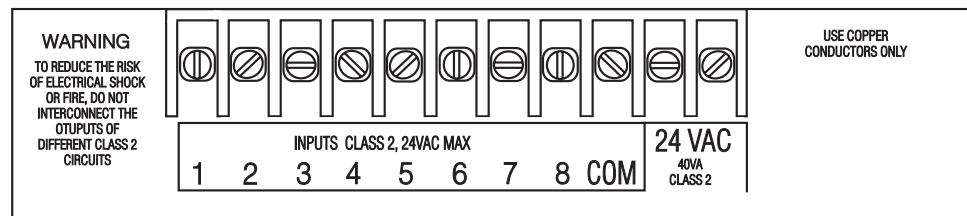

Figure 5. LCU Terminal Strip
- Connect the other (common) side of the transformer to Terminal 9 (COM; see Figure 5) on all LCUs.